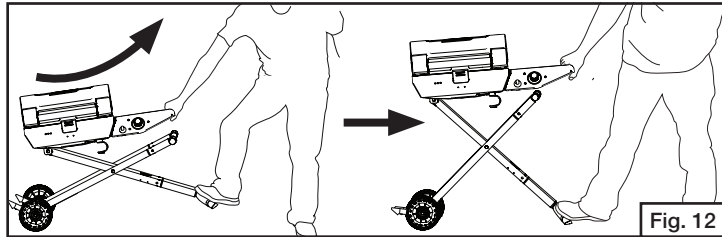

Fig. 12
- Open up the grill from the folded position. Place one foot on the towing handle, grasp the handle on side table, and lift up towards you. Continue to pull up until the grill stand is fully extended. (Fig. 12)